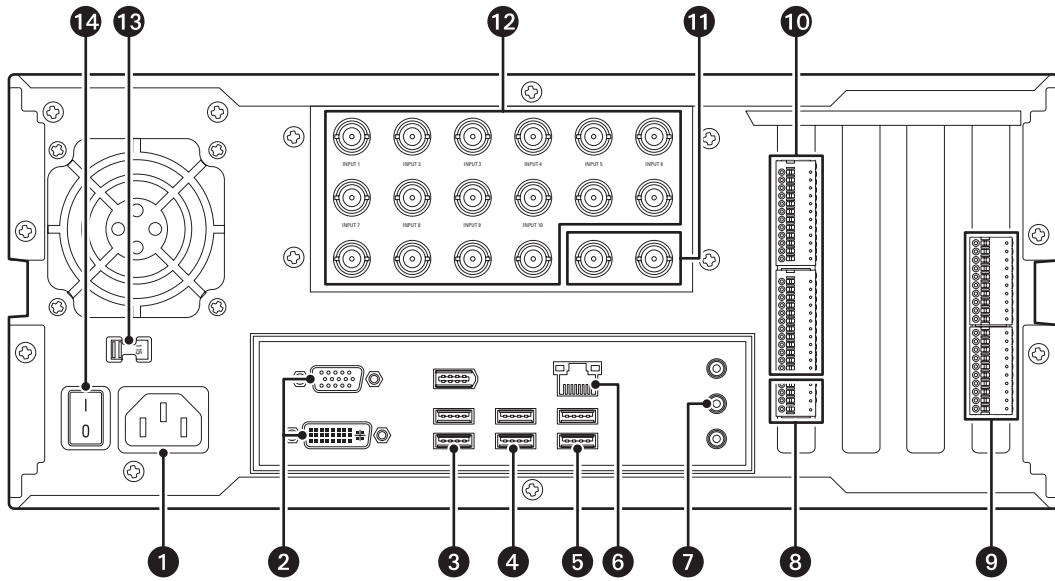
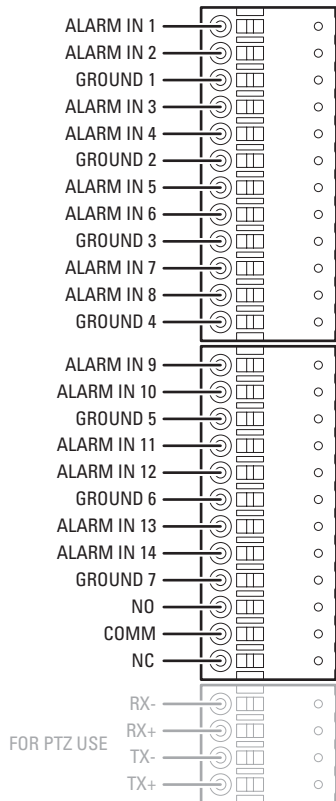
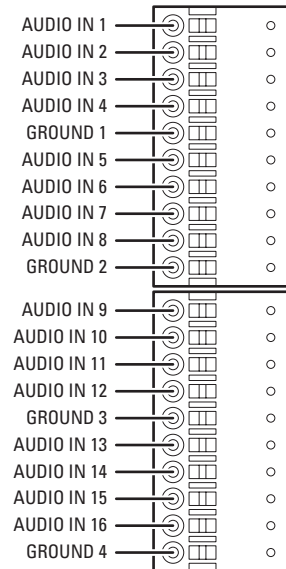

Figure 16. Rear Panel of DS RealVue Desktop
Figure 17. DS RealVue Desktop Alarm Bracket
Figure 18. DS RealVue Desktop Audio Connector
Refer to Figure 16, Figure 17 and Figure 18 on page 21 to install DS RealVue Desktop. Then complete the following steps:
10. Item **10** shows the connector for the 16 digital inputs and alarm output. Wire your alarm triggers into the input trigger block and connect the signal ground to a GND pin. Refer to Figure 18 on page 21 for pinout/connector information.